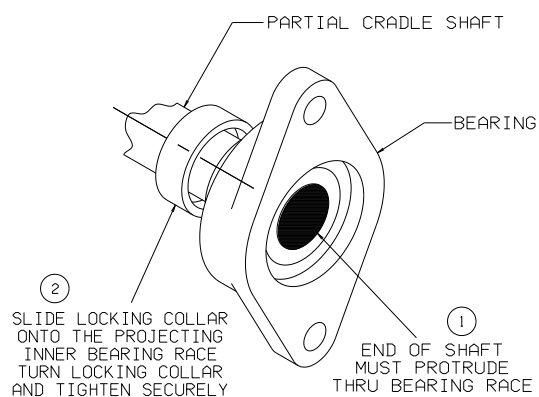

FIGURE 3
4. Position both bearings so that the end of the shafts protrude completely through the bearing races, to ensure maximum engagement of both bearings (see **Figures 3 & 4**).
5. With the bearings in position on the shaft, slide the locking collars onto the projecting inner races of the bearings. Tighten the collars securely using a spanner wrench. Tighten the setscrews securely against the shaft (see **Figures 3 & 4**).